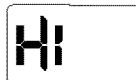

Fig.1
1. Insert the probe into the thickest part of the meat and place the turkey in the oven -p. 28 Fig 1.